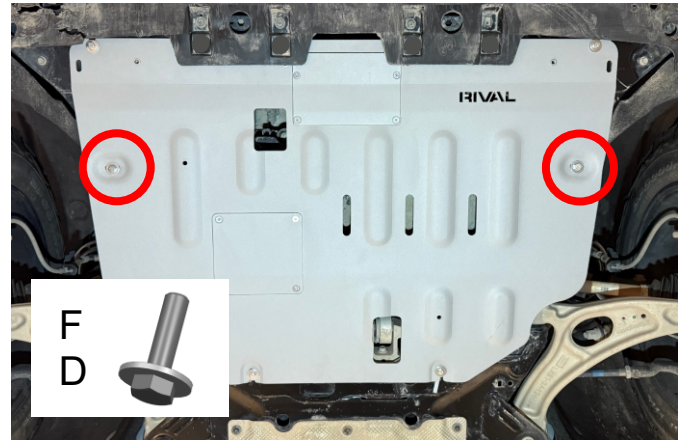

Fig. 6
6. Secure the middle part of skid plate using M8x30 bolts and M8 washers (items D, F) as shown in fig.6.